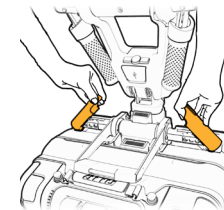

Figure 57
3. Close the two separation levers until they click (see Figure 57). In case the separation levers require too much force to operate, you should apply horizontal pressure on the driving console handle towards the center of the ATTO. This will release the pressure on the separation levers and will make them easier to close.